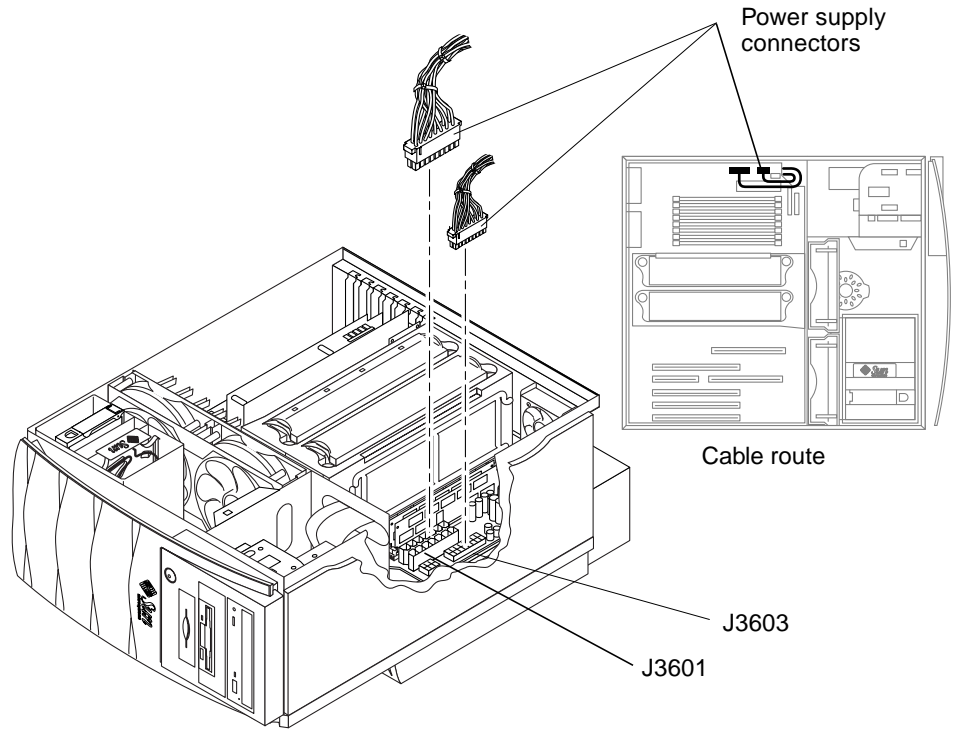

FIGURE 6-2 Removing and Replacing the Power Supply Assembly
2. **Squeeze the connectors to disengage them from the motherboard. Now, disconnect the two power supply assembly connectors, J3601 and J3603, from the motherboard (FIGURE 6-2).**
- 5. Connect the power supply assembly connectors to the motherboard connectors J3601 and J3603 (FIGURE 6-2).**